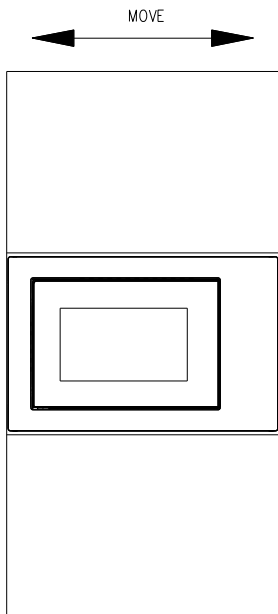

Fig.3
c) Move the product in parallel in the kitchen cabinet according to the direction of the arrow in the figure, and keep it centered. (Fig.3)